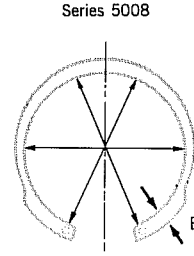

FIG. 3
- For 5008: Release ring and measure I.D. in three directions through center of ring as shown in Fig. 3 above. Measure lug height (dimension "E"). Ring is fully operative if: